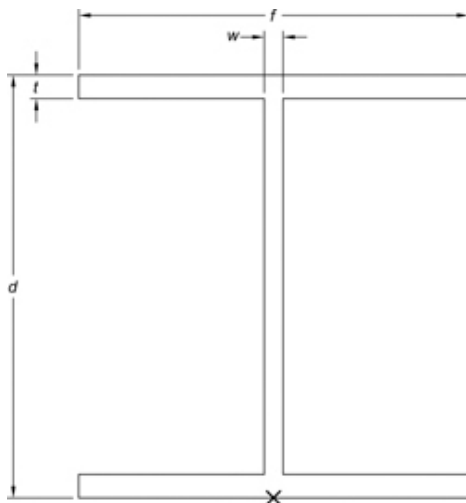

Figure 16-78
2. Draw eight wide flange shapes using the designation and dimensions in the following steel table using the wide flange profile shown in Figure 16-78.
- b. Specify the base point shown with “X” in Figure 16-78.